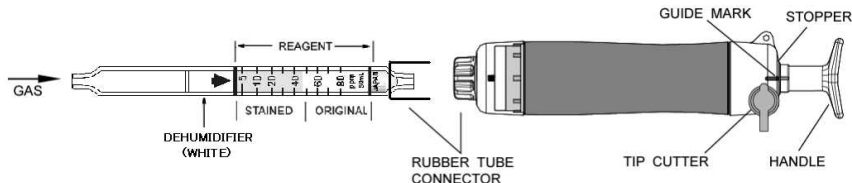

Fig.1
- ② Insert the detector tube into the aspirating pump securely as shown in Fig.1. (Arrow mark shall point to the pump.)
- ③ Align the guide marks on the shaft and stopper of the aspirating pump.
- ④ Pull the pump handle at a 1/2 stroke until it locks and wait for 30 seconds or until the completion of sampling is confirmed with the flow indicator of the pump. (See descriptions about the flow indicator in the instruction manual of the pump.)
- ⑤ On completion of sampling, read the scale at the maximum point of the stained layer.
- ⑥ When the concentration is below the scale range, 1 pump stroke can be used to determine concentrations of 2.5 to 40 ppm. Then multiply the reading value by 0.5.